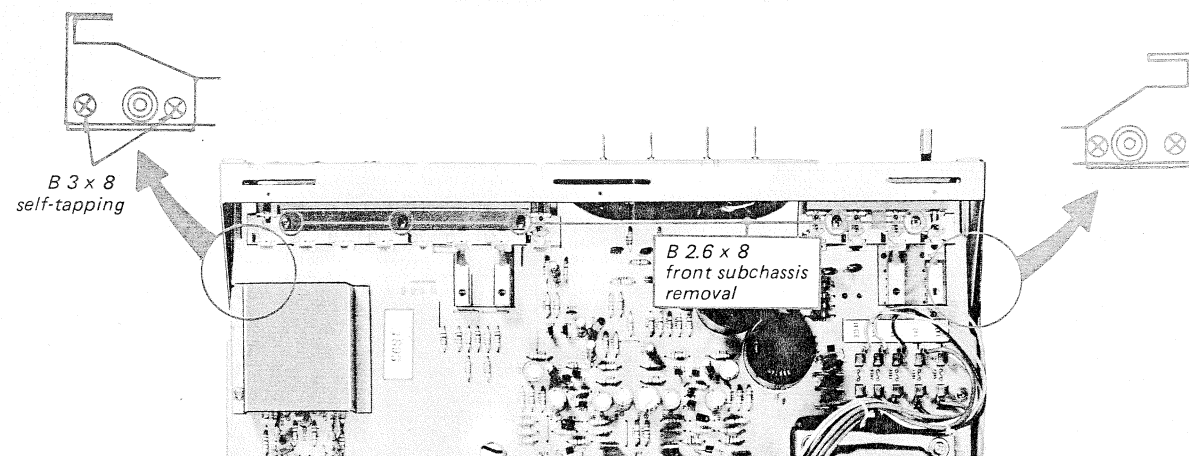

Fig. 2-3. Front subchassis removal
2. Remove the two screws at each side of the front subchassis as shown in Fig. 2-3.
3. Remove the five screws shown in Fig. 2-3.